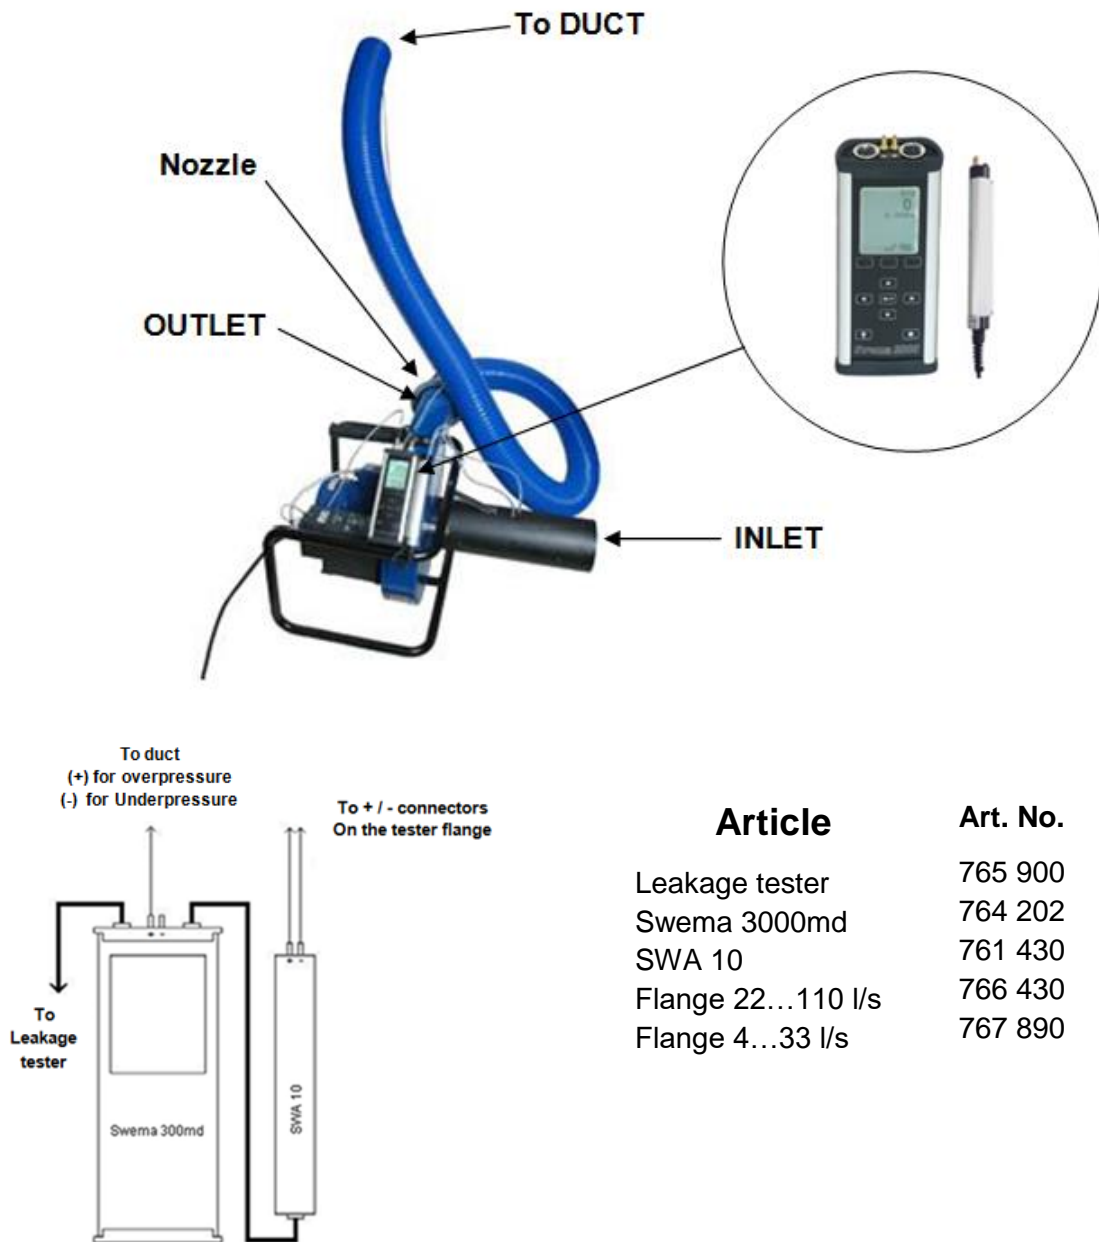

Fig. 1
LEAKAGE TESTER AND ACCESSORIES (Fig. 1)
5. Choose in the instrument the saved protocol to be transferred to the PC. See Fig. 1. on page 4.